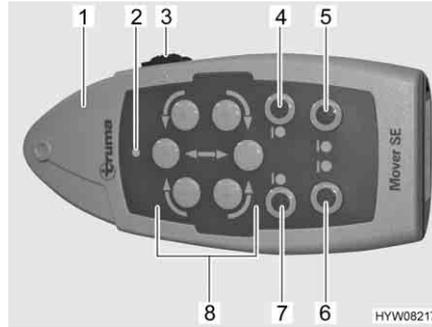

Fig. 7 Remote control
- Push the sliding switch (Fig. 7,3) on the remote control (Fig. 7,1) to "ON" (I). If the green LED (Fig. 7,2) lights up, the manoeuvring system is operational.
- Swivel the drive rollers onto the tyres on both sides. To do so, press the "Engage" (Fig. 7,4 and 7) buttons.
- Move the vehicle into the required position using the direction buttons (Fig. 7,8).
- Swivel the drive rollers away from the tyres on both sides. To do so, press the "Disengage" (Fig. 7,5 and 6) buttons.
- Push the sliding switch (Fig. 7,3) on the remote control to "OFF" (0).